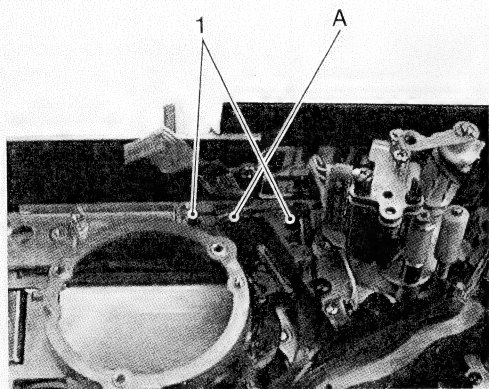

Fig. 2-7-48
6. Attach take-up catcher A using the two screws 1 (see Fig. 2-7-48).